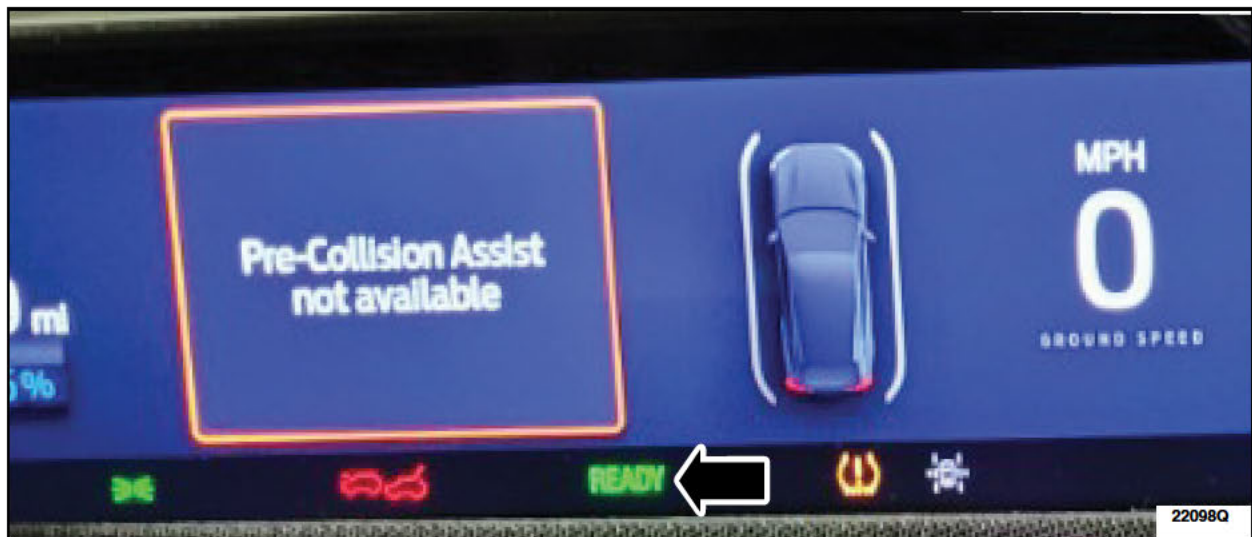

FIGURE 14
15. Verify that the green ready light is on on the instrument cluster. See Figure 14.